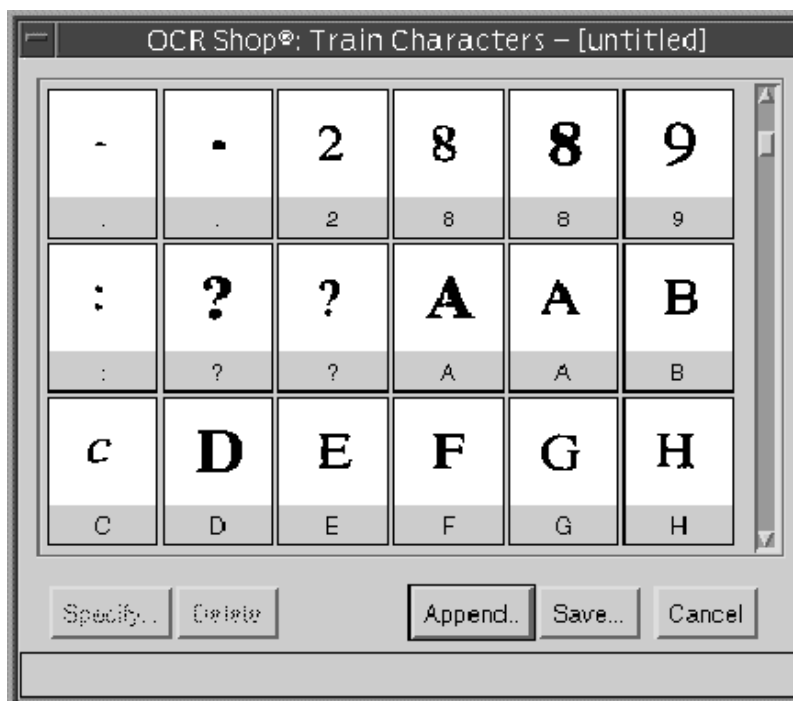

Figure 4-9 Train Characters
6. Click Start Recognition. OCR Shop will scan the image file, and then the Train Characters window will appear, see Figure 4-9. You are now ready to
Note: The characters you see in the Train Characters window may vary depending on your scanner, see Figure 4-9.